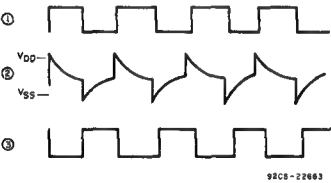

Fig. 2 - RC-oscillator operating waveforms.
RCA COS/MOS parts, i.e., CD4007A, CD4001A, CD4011A, etc.) and a single resistor and capacitor. The operating waveforms for this circuit are shown in Fig. 2.
increasing or decreasing with discontinuities equal in magnitude to V_{DD} during the instant of switching. However, since point (2) is protected by a standard input-protection circuit common to COS/MOS devices, the waveform is clamped at one diode voltage drop above V_{DD} and below V_{SS} . (Refer to waveforms in Figs. 2 and A1). The calculations for the period of this multivibrator circuit are shown in Appendix A; the final equation for the period T is